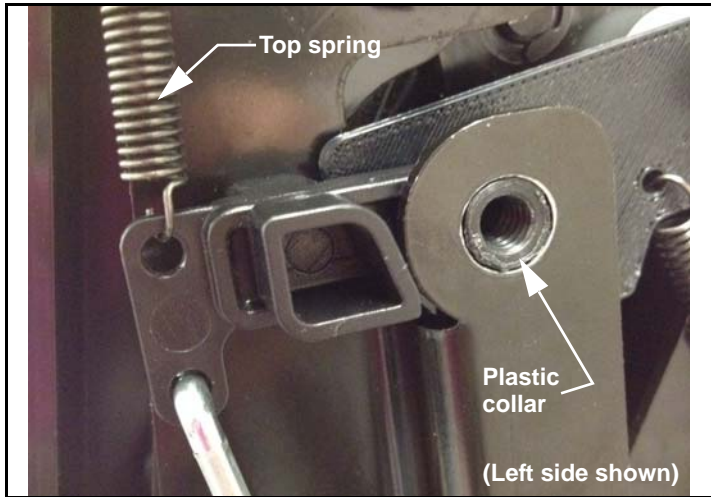

Figure 6
5. Reattach top spring. (See Figure 6)
6. Insert the plastic collar into fastener hole. (See Figure 6)